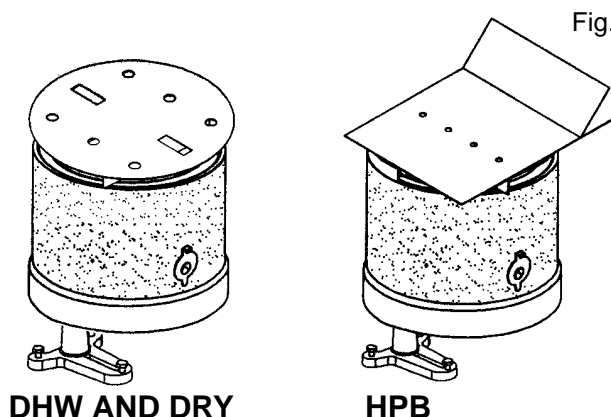

Fig.29
5. Fit the burner baffle and the burner lid on top of the shells. (See Fig.29).
Note: The angle on the DHW/Dry baffle is directed towards the oven. See Fig. 29.